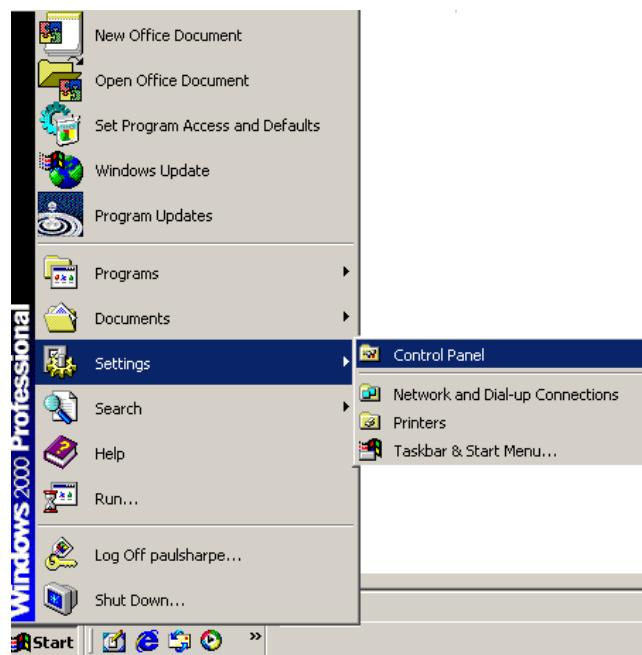

Figure 7-15: Access Windows Control Panel
Step 30: Open Windows Control Panel (**Figure 7-15**).